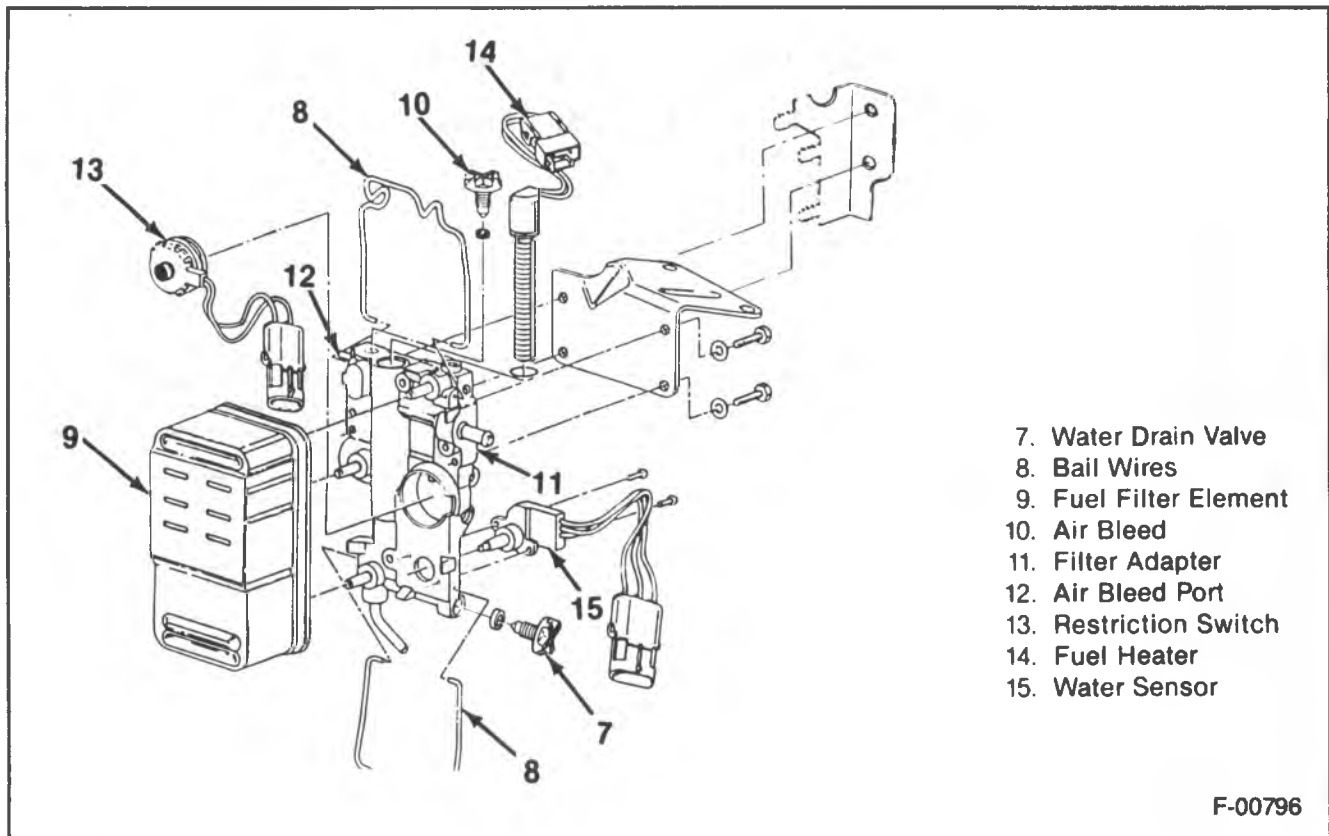

Figure 2 — Diesel Fuel Filter
The diesel engine fuel filter is an inline type filter which combines several different functions. It acts as a filter, water separator, water detector, water drain, and a fuel heater (Figures 2, 3, and 4).
4. Open the drain valve (7) two to three turns (figure 2).
6. Stop the engine and close the drain valve (7).
Remove or Disconnect (Figure 2)
Install or Connect (Figure 2)
All component parts of the fuel filter assembly are serviceable. Refer to figure 2. These components include the filter adapter (11), restriction switch (13), fuel heater (14), and the water sensor (15).